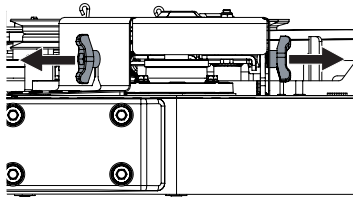

Figure 54
2. Remove the hex thumb screws securing the belt covers to the deck. See Figure 54.